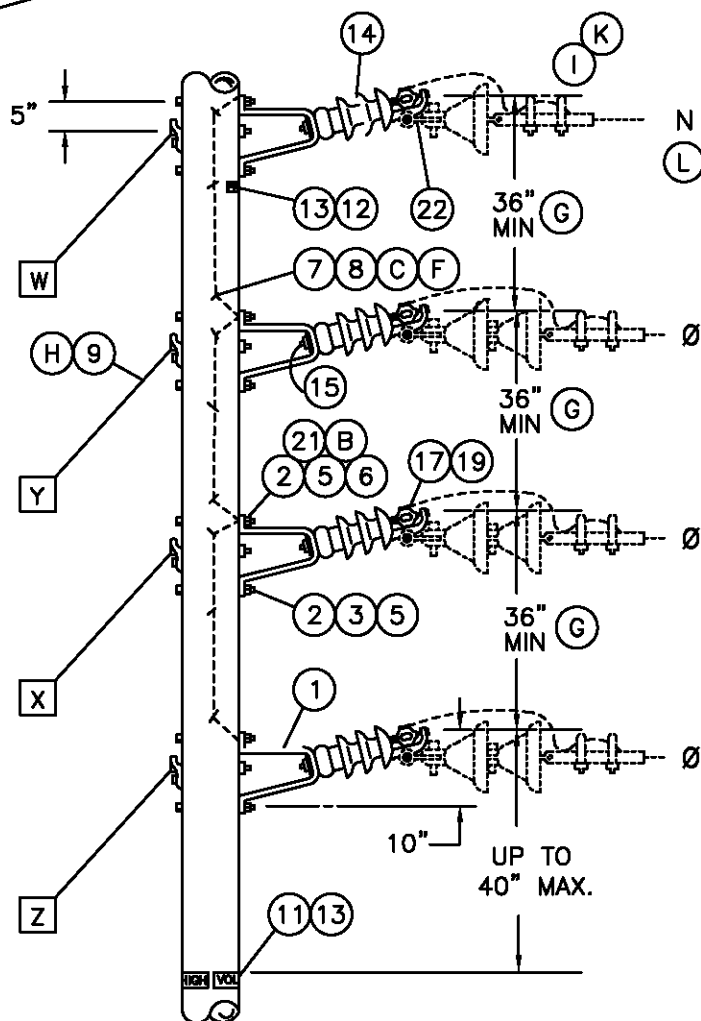

FIGURE 2
- (H) ADD THE GUYS IN ORDER INDICATED (W,X,Y,Z) AS REQUIRED IN THE GUYING SECTION.
- (I) WHERE REQUIRED TO ADD A TAP TO THIS CONSTRUCTION, ATTACH DEADEND ASSEMBLY ON PAGE 422.1 AND 422.2 TO HPIs WITH DEADEND CLEVIS. IF PAGE 756 REQUIRES THIS ASSEMBLY TO BE BONDED, CONTACT DISTRIBUTION STANDARDS.
- (J) WHERE REQUIRED TO ADD A TAP TO THIS CONSTRUCTION, USE FIG. 2.
- (K) PER G.O.-95 RULE 54.4-C4 (b), ONLY TWO CONDUCTORS ARE ALLOWED TO BE DEAD ENDED FOR 4 KV OPERATION.